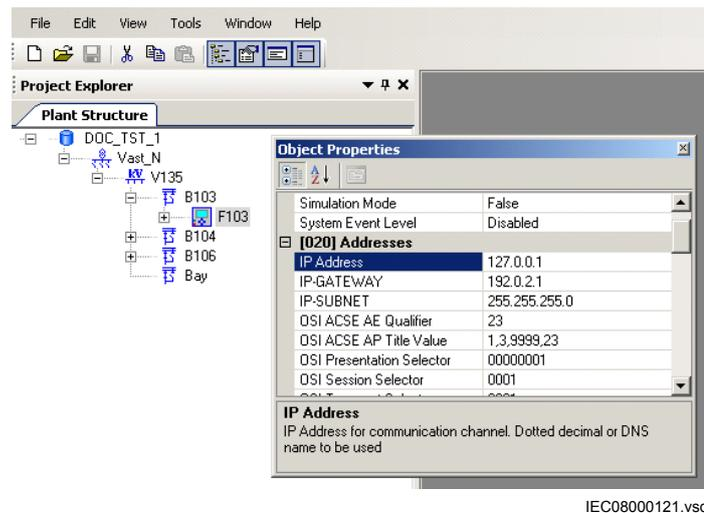

Figure 29: Alternative 2: IP address via IED Object Properties window
- Via the IP address of the IED in the *Object Properties* window, see Figure 29.